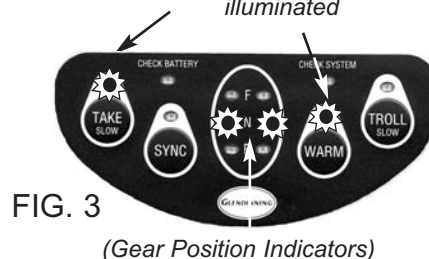

FIG. 3 (Gear Position Indicators)
3. The EEC3 system is operational when the TAKE light and WARM lights are fully illuminated (not blinking - see FIG. 3). The system is automatically placed in WARM Mode at startup (This feature can be changed if desired, see Section 5.8).